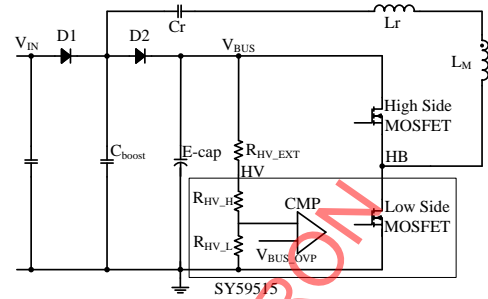

Fig.5 HV OVP Principle of SY59515
**HV OVP:** When AC supply or DC BUS is too high, or surge comes, or in output short circuit condition,  $V_{BUS}$  may be over voltage, which will lead to the failure of input E-cap or internal MOSFET in SY59515 and SY59516. There is a resistor divider composed of one external HV pin resistor  $R_{HV\_EXT}$  and two internal HV pin resistors. Two internal HV resistors are  $R_{HV\_H}$  and  $R_{HV\_L}$ , their resistance are  $4M\Omega$  and  $10k\Omega$ . As shown in Fig.5, voltage across  $R_{HV\_L}$  is used to compare with  $V_{BUS\_OVP}$ , the actual  $V_{BUS}$  in HV OVP can be calculated as below: